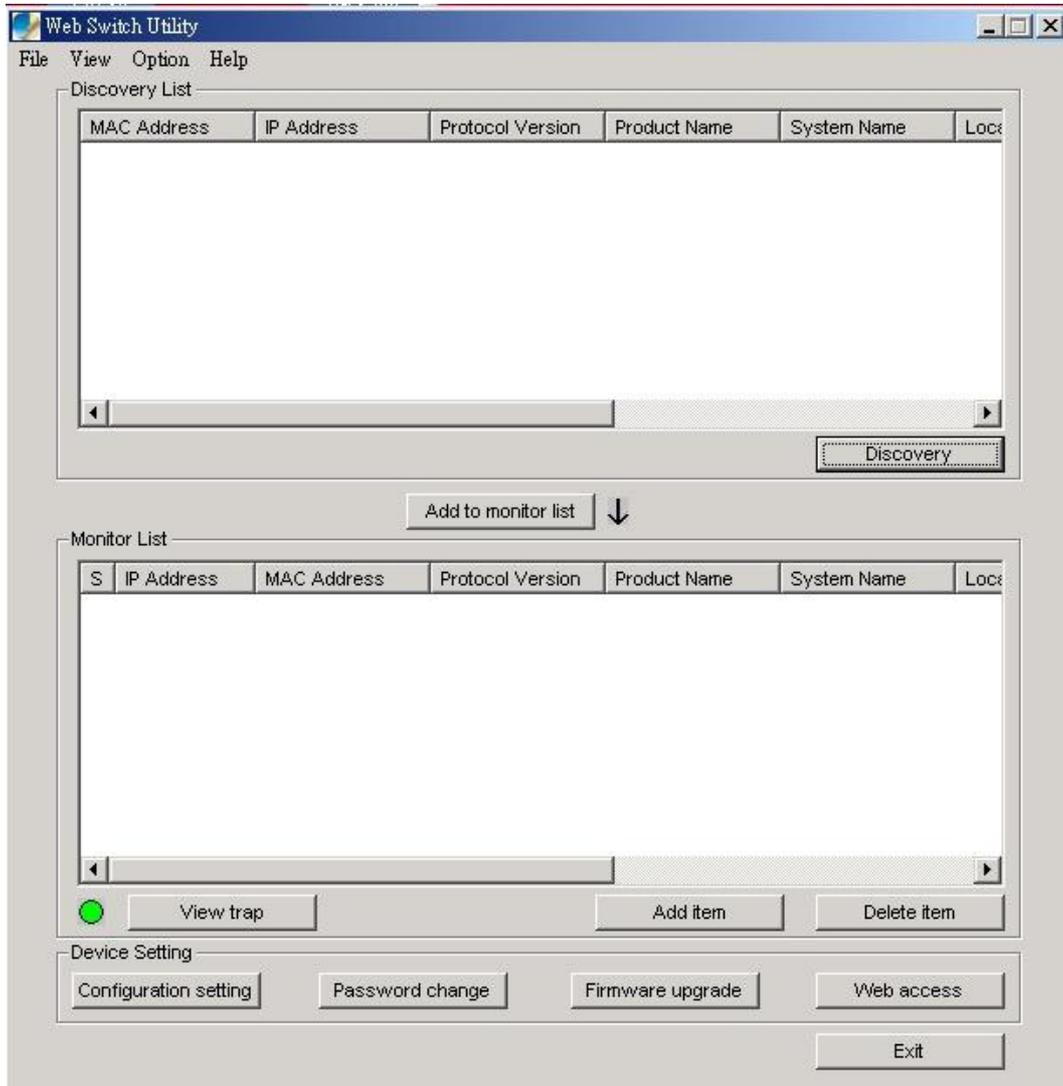

Figure 3-8 Web Switch Utility main screen
4. After install completed, choose **Program Files -> PLANET Web Switch** and execute the Web Switch utility. The screen in Figure 3-8 appears.